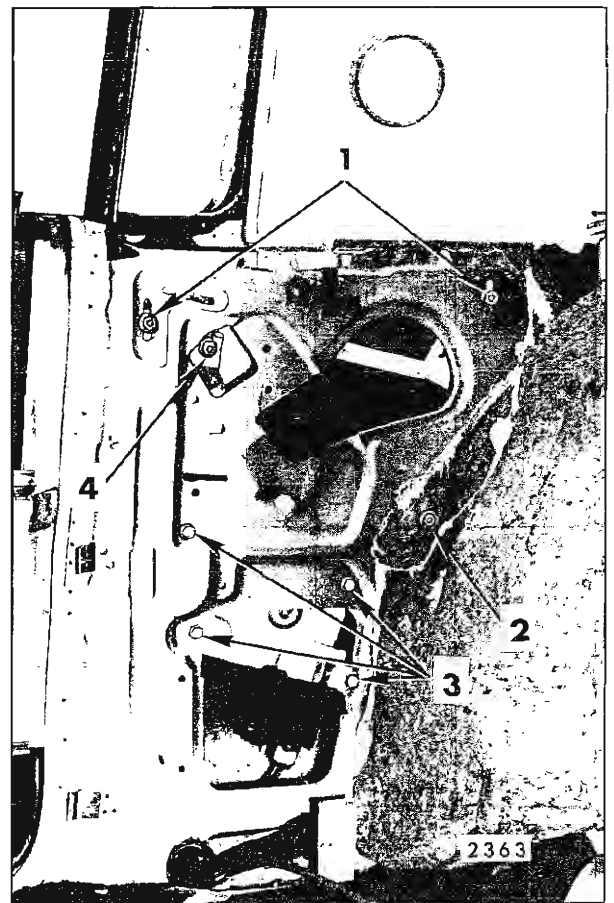

Fig. 7-52—Rear Quarter Hardware - "E-47" Style
3. Remove run channel rear attachment (on inner panel (see Fig. 7-52) and forward attachment, under lock pillar grille).